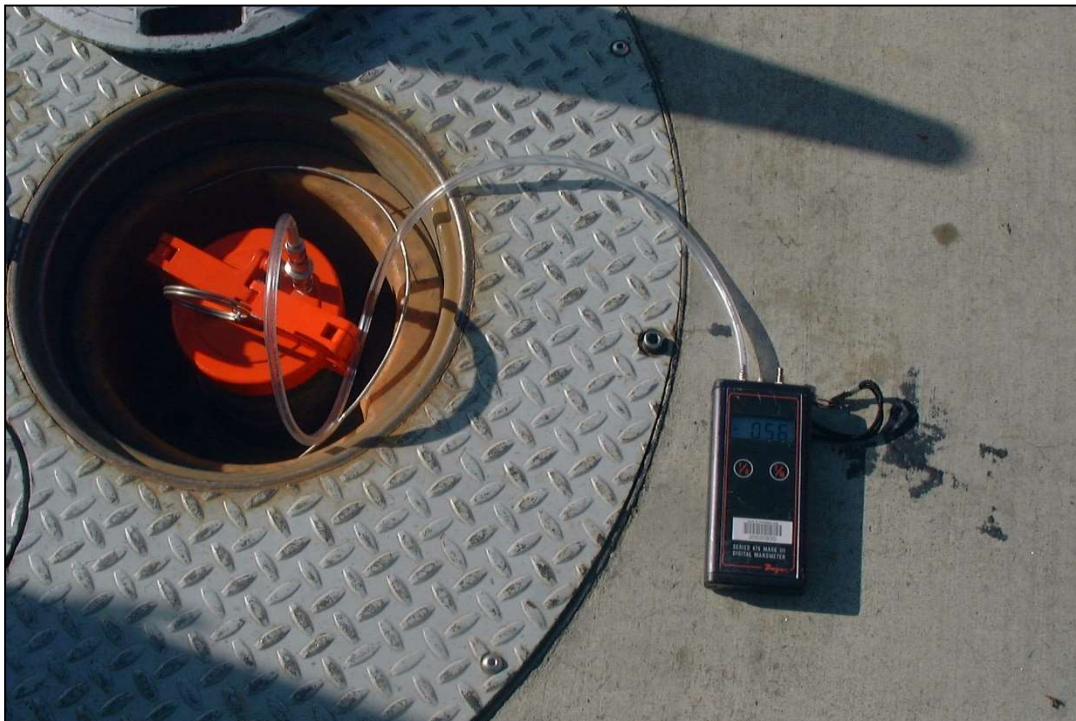

FIGURE 10-3
The Vapor Pressure Sensor is subjected to ambient pressure by turning the Vapor Pressure Sensor valve, which is located on the vent stack or in the dispenser closest to the tanks, to the atmospheric valve position as shown in Figure 10-3. This test can be performed while product is being dispensed into motor vehicles.
9.2. Remove the cap from the ambient reference port of the Vapor Pressure Sensor valve and open the valve to atmosphere by turning it 90 degrees so that the flow arrows point to both the Vapor Pressure Sensor sensing port and the ambient reference port (see Figure 10-3).
- 9.6. Replace the cap on the ambient reference port of the Vapor Pressure Sensor valve. Restore the Vapor Pressure Sensor valve by turning it 90 degrees so that the flow arrows point to both the Vapor Pressure Sensor sensing port and the UST vapor space sensing line (ref. Figure 10-3).
STEP 9.1	PRESSURE SENSOR LOCATION: DISPENSER FUELING POINT (FP) or VENT STACK FP # _____ <input type="checkbox"/> VENT STACK <input type="checkbox"/>	PRESSURE SENSOR SERIAL NUMBER: _____
STEP 9.2	REFERENCE PORT CAP REMOVED? <input type="checkbox"/> VALVE SET TO AMBIENT REFERENCE PORT (PER FIG. 10-3)? <input type="checkbox"/>
STEP 9.5	REFERENCE PORT CAP REPLACED? <input type="checkbox"/> VALVE SET TO NORMAL VALVE POSITION (PER FIG 10-3)? <input type="checkbox"/>